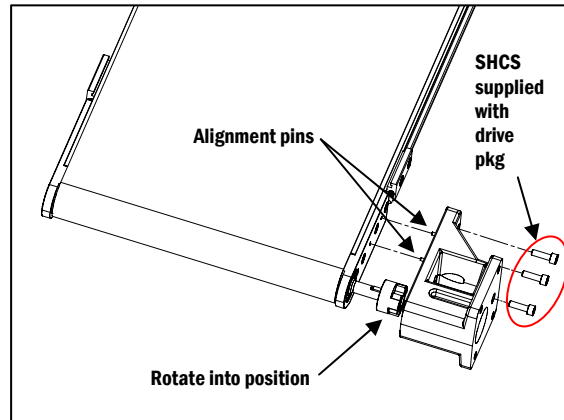

Figure 4
③ Install the Drive Mounting Casting
b. Place the Drive Mounting Casting over the conveyor's bearing block. Align the pins in the casting to the holes in the bearing block and secure it in place with the three M6 Socket Head Cap Screws supplied with the mounting package (Figure 4).